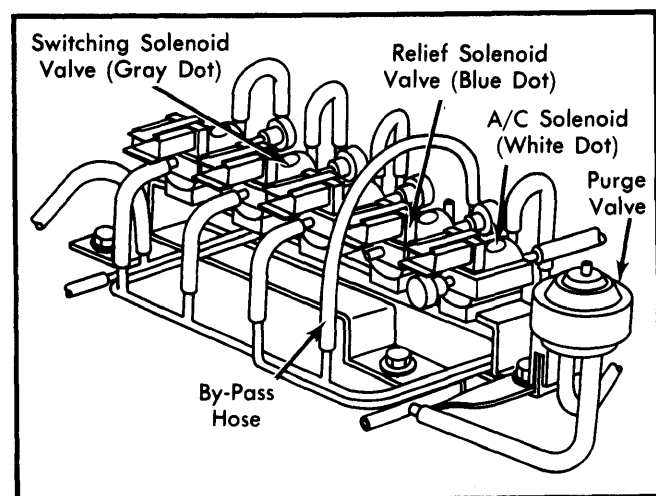

Fig. 2 Hose Arrangement for Checking Air Control Valve Operation
- 2) Disconnect both vacuum hoses from relief solenoid valve (Blue color dot). Using rubber hose, by-pass relief solenoid valve by connecting vacuum lines on each side of relief valve together. See Fig. 2. This will cause manifold vacuum to be routed directly to air control valve.